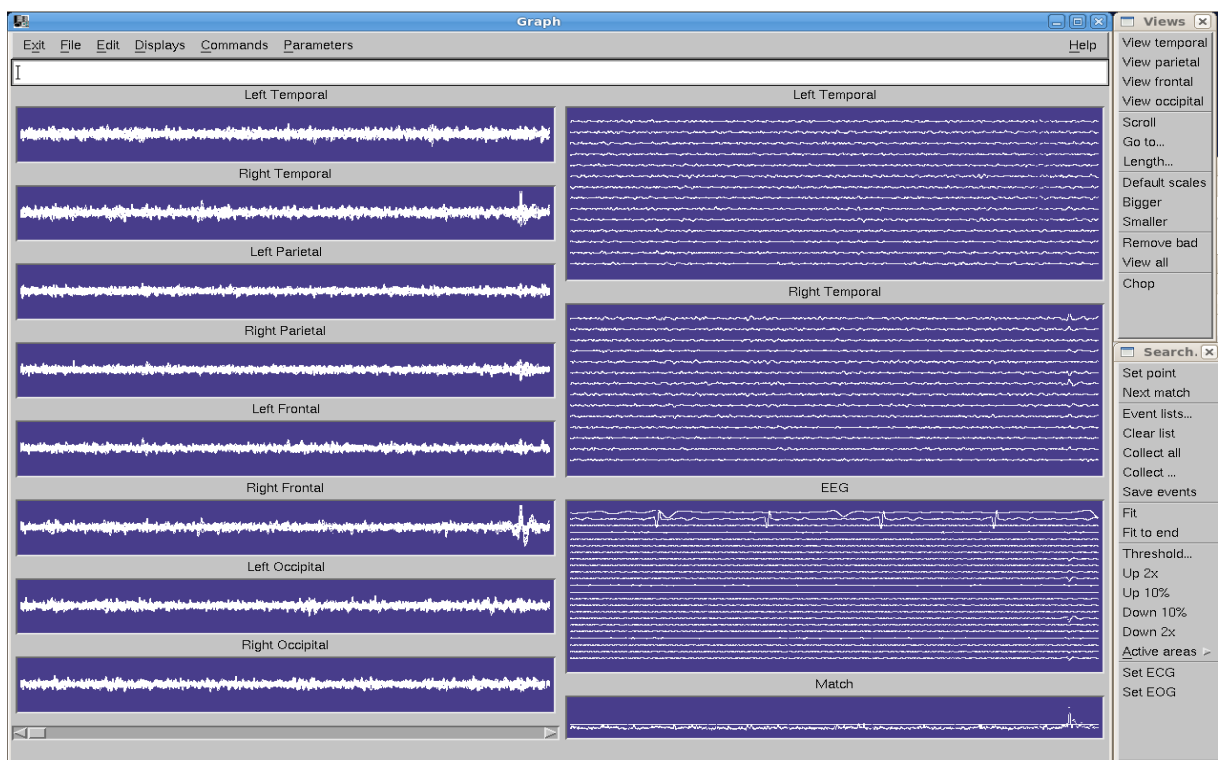

Figure 63: *Graph* epilepsy 2.3 setup and tear-off menus.
- The epilepsy spike search setup is shown in Figure 63.
- Detach tear-off menus **Displays->Views** and **Commands->Search** by clicking the dashed line in the list so that it will remain open and on top of screen (Figure 63). Note that all the menus that have the dashed line work the same way.
- Select **Displays-> Views -> View temporal, parietal, frontal, or occipital** to change the right column views of Figure 63.